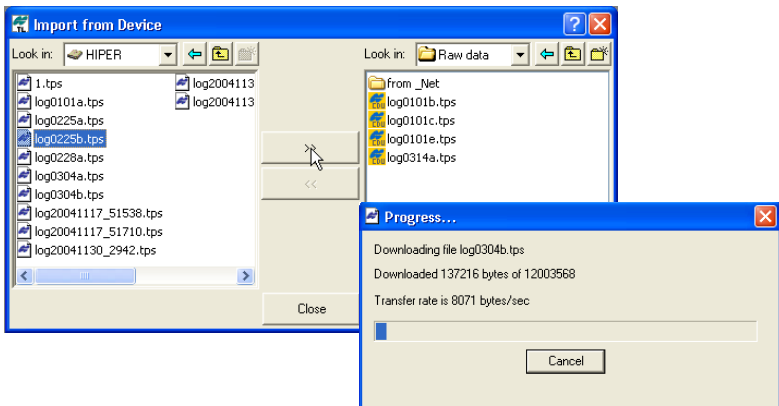

Figure 5-8. Select the Raw Data File to Import and View Import Progress
5. In the right panel of the *Import From Device* window, navigate to and select, or create, a folder to save the files (Figure 5-8).
- (Figure 5-8).
7. The import in progress displays (Figure 5-8).